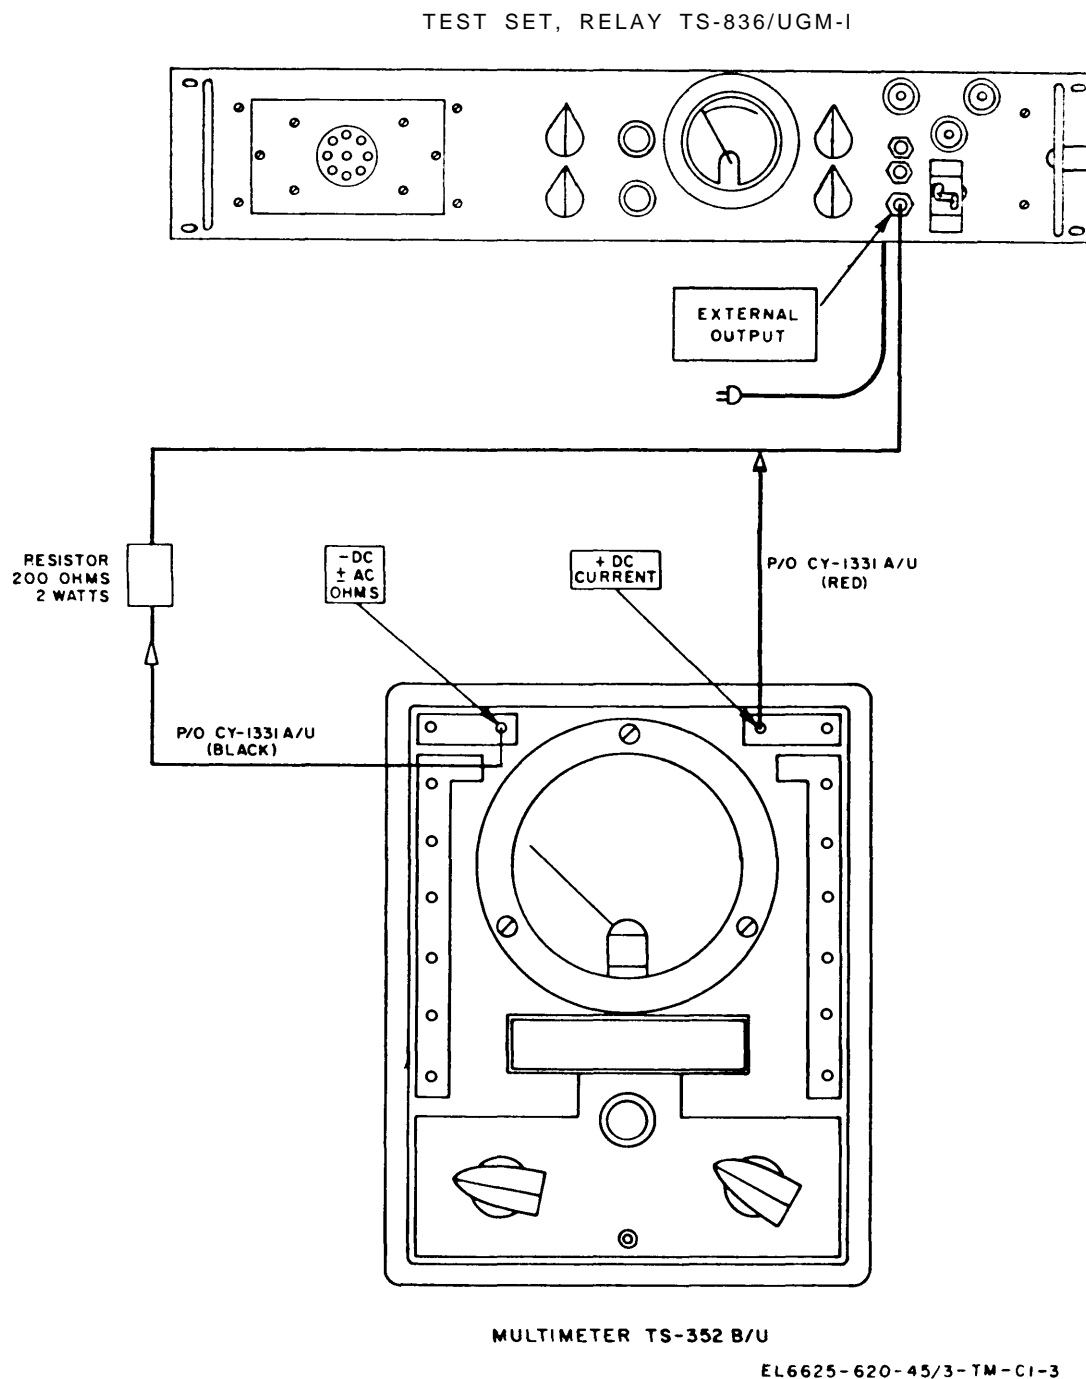
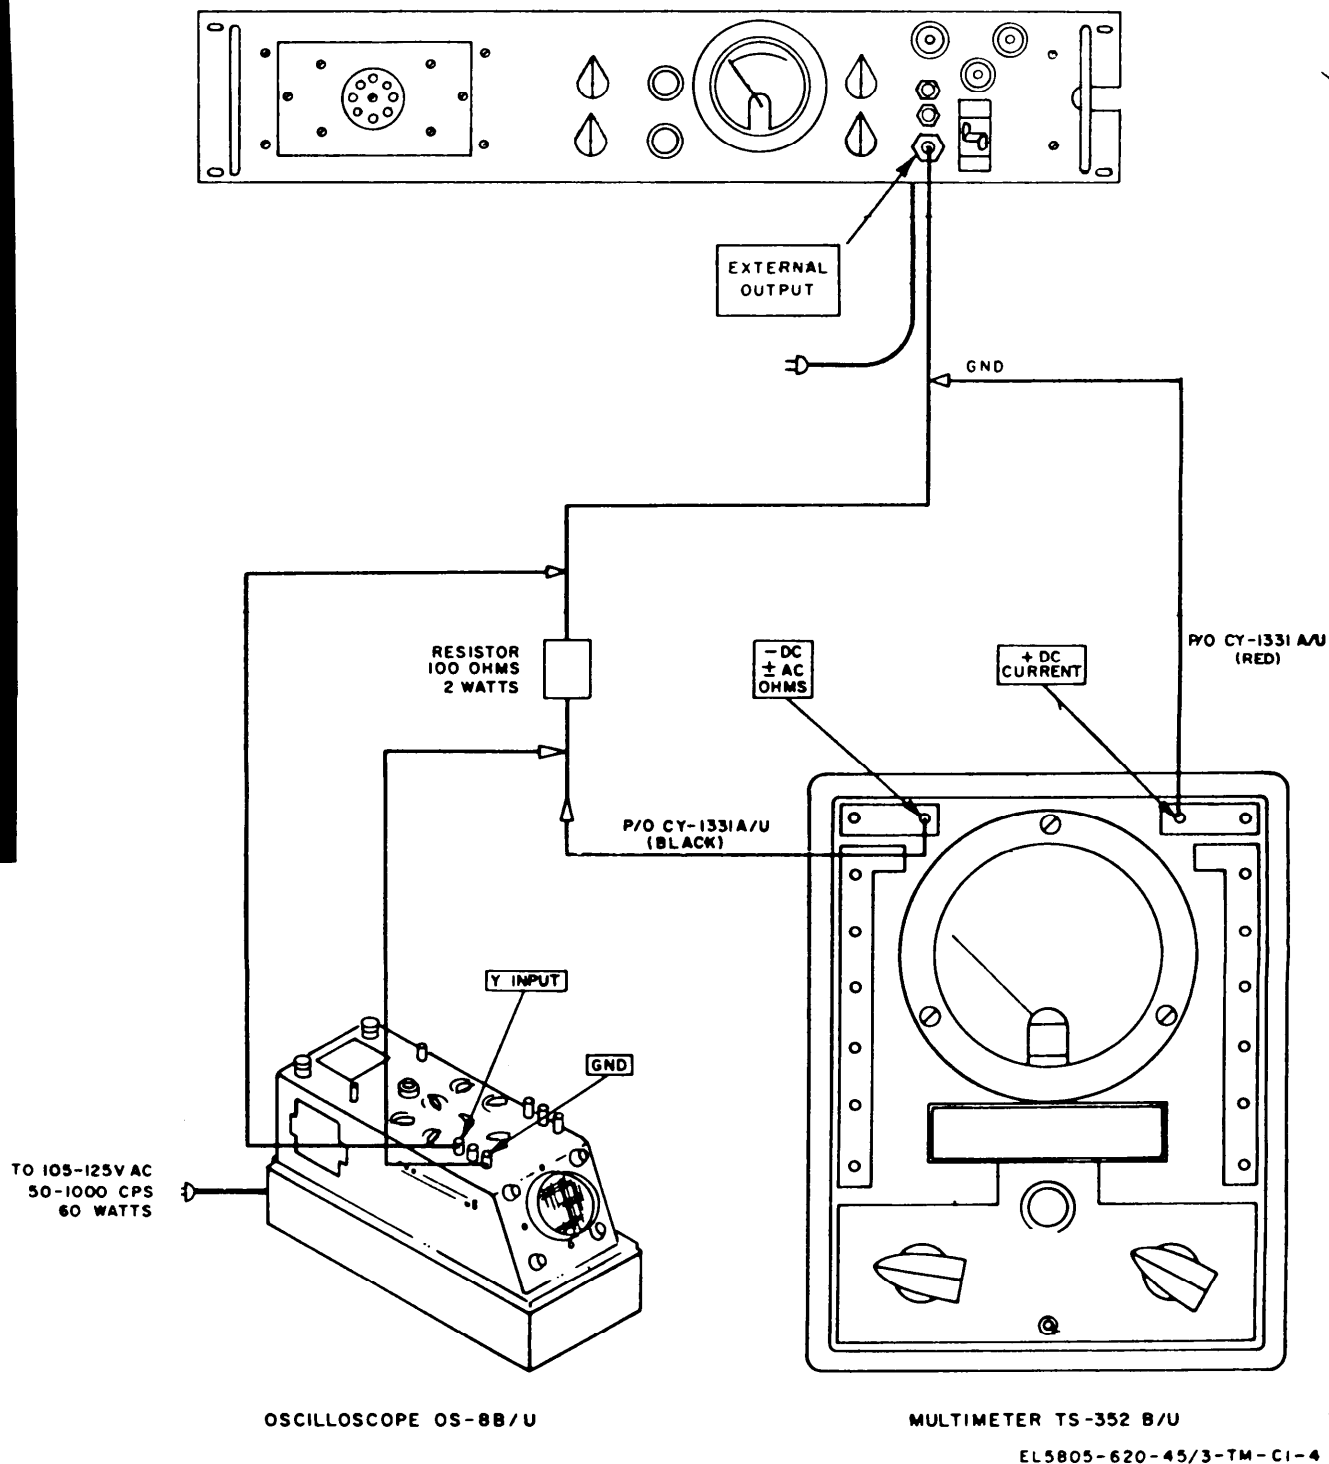

Figure 7-6. Contact Bounce, Test Setup (steps no. 1, 2, and 3) .
Figure 7-7. Contact Bounce, Test Setup (step No. 4).
(1) Connect equipment as shown in figure 7-6 for steps No. 1, 2, and 3 and as shown in figure 7-7 for step No. 4.
(2) Plug Sigma 72 test relay into the octal, relay test socket on the front panel of the TS-836/UGM-1.